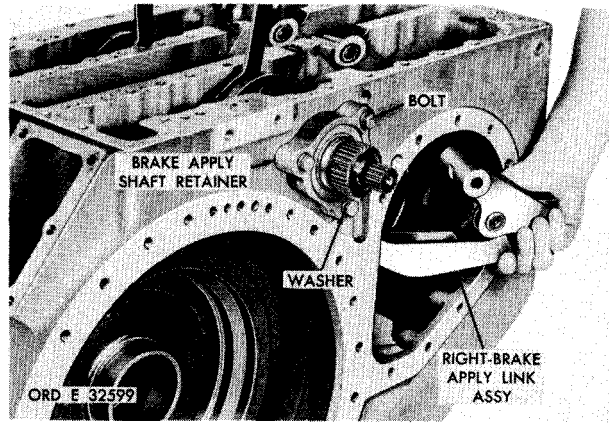

Figure 180. Removing (or installing) right-cam follower and brake apply link assembly
t. Remove the right-cam follower and brake apply link assembly (fig. 180).
z. Using a 9/16-inch wrench, remove three bolts and lock washers retaining the brake apply shaft retainer (fig. 180).